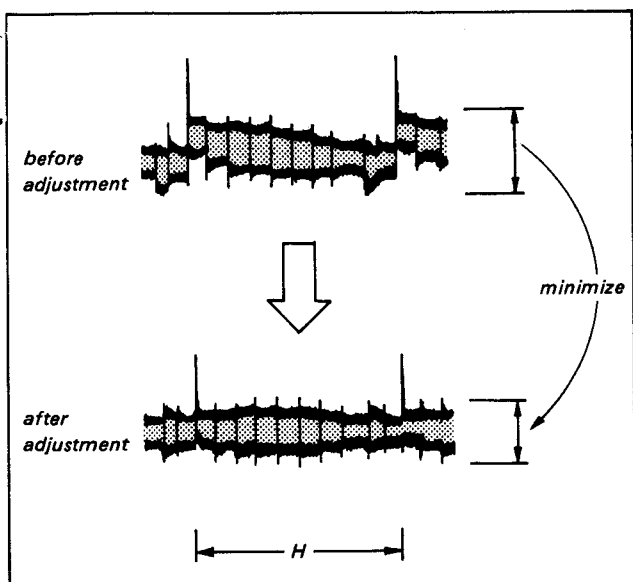

Fig. 5-15. Y-comb adjustment
- i) Adjust RV12 for minimum output. (See Fig. 5-15.)